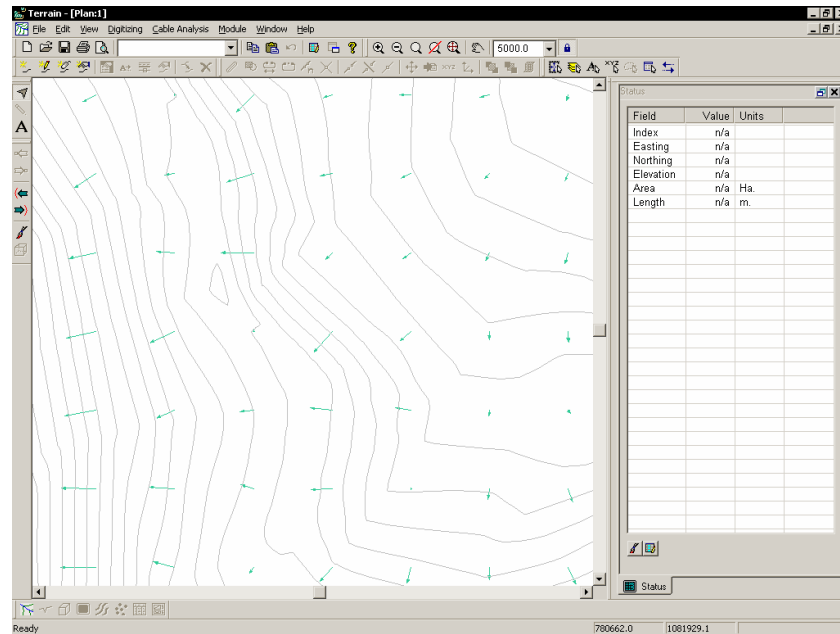

Figure 11.2: Slope Directional Arrows
6. Zoom in on any location to view the directional arrows close up. Notice all these arrows point in the downslope direction and the length of the arrows is directly proportional to the slope. The steeper the slope the longer the arrow as shown in Figure 11.2